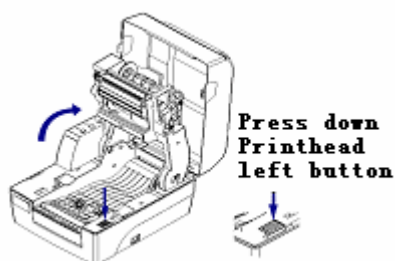

Figure 2.4.2
- 2) Press down Print-head lift button. After ribbon holder is lift, turn it at the angle shown as below (stop it until a slight sound "pa" is prompted) (see figure 2.4.2);